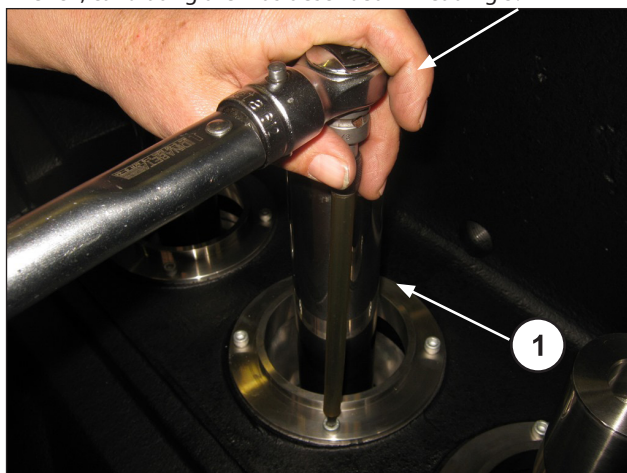

Fig. 161
Tighten the four M6 screws (pos. ①, Fig. 161) using a torque wrench, calibrating them as described in heading 3.